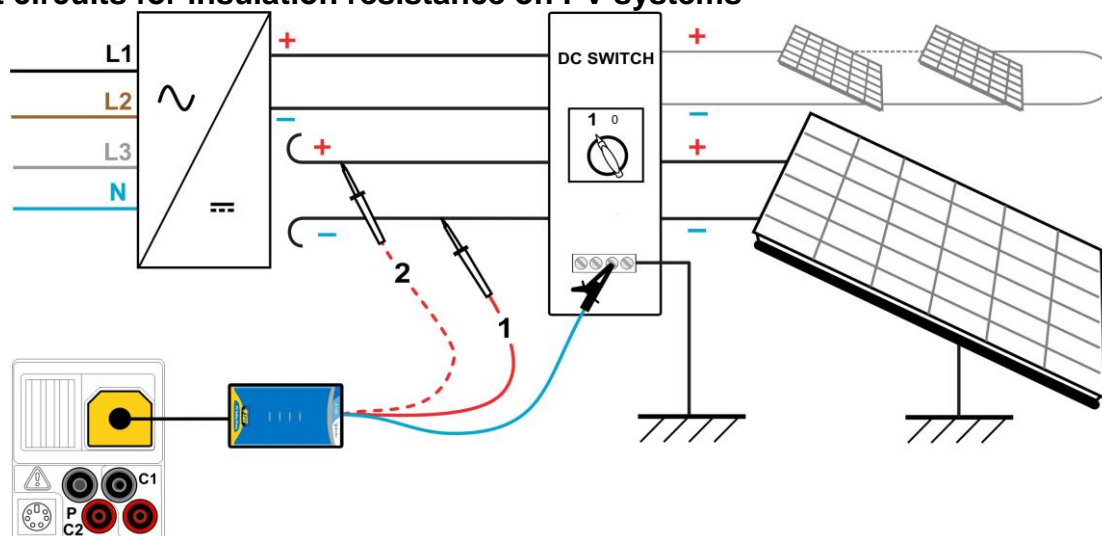

Figure 6.2: Connections for insulation resistance measurement on PV systems
- ❑ **Connect** PV safety probe to the instrument (see figure 6.2)
- ❑ **Connect** accessories to the PV system (see figure 6.2).
- ❑ **Reconnect** DC+ lead (see figure 6.2).